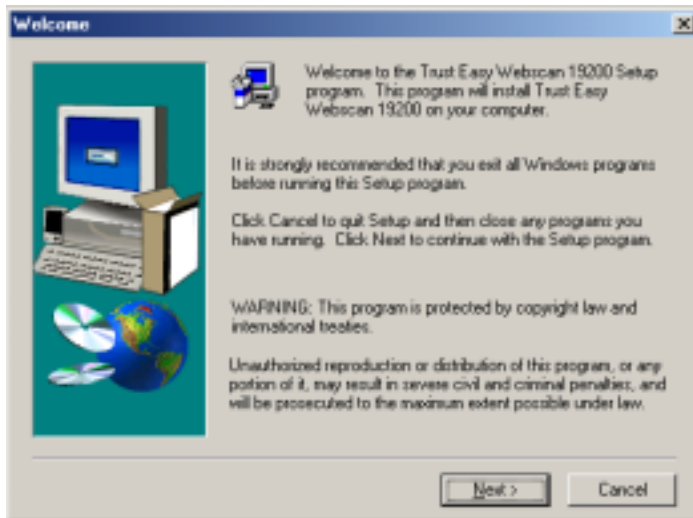

Figure 3: TWAIN setup program installation
7. Click on 'Next' to continue installation. See figure 3.